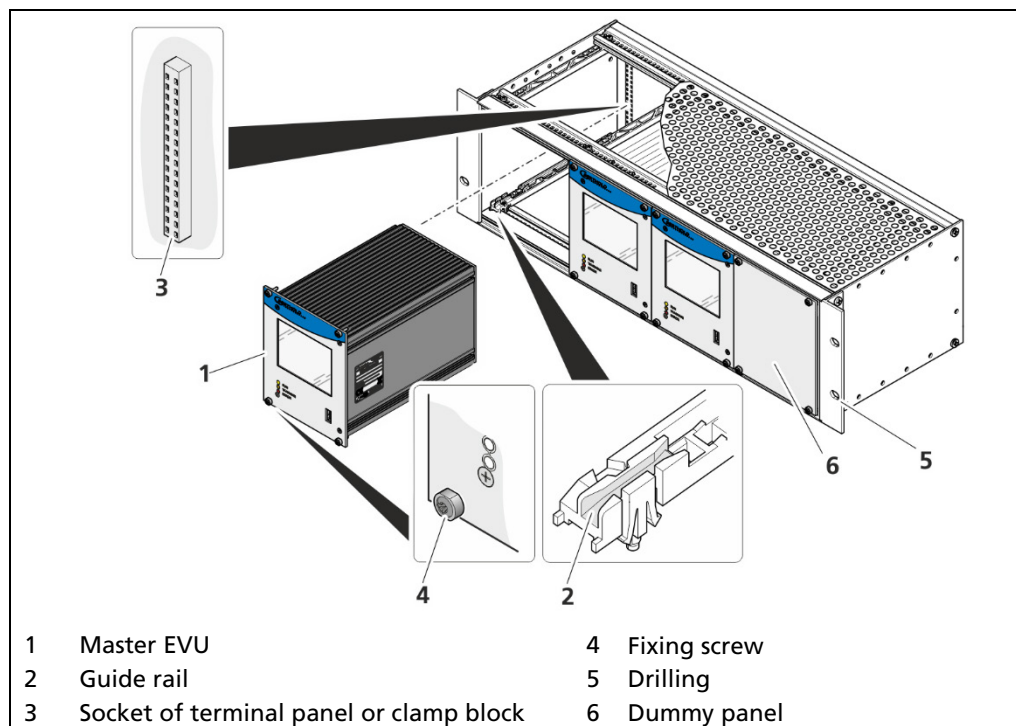

Fig. 8 19" subrack with clamp blocks (Example 3x Master)
The 19" subrack can be equipped differently (see document "Technical Information"). The rear clamp blocks or terminal panels (Fig. 8, item 3) are used for the electrical connection.
The subrack is installed in a 19" control cabinet or a control panel (switchboard). The 4 side holes (Fig. 8, item 5) that should be provided with fitting screws are used to fasten the subrack.
- ▶ The master's EVU modules must be secured against pulling out by fixing screws (Fig. 8, item 4).
1. Place required master EVU (Fig. 8, item 1) in the guide rail (Fig. 8, item 2).
2. Carefully slide the EVU into the subrack until the plug connector is inserted into the socket (Fig. 8, item 3).
3. Tighten fixing screws (Fig. 8, item 4).
4. Unused slots must be covered with dummy panels (Fig. 8, item 6).